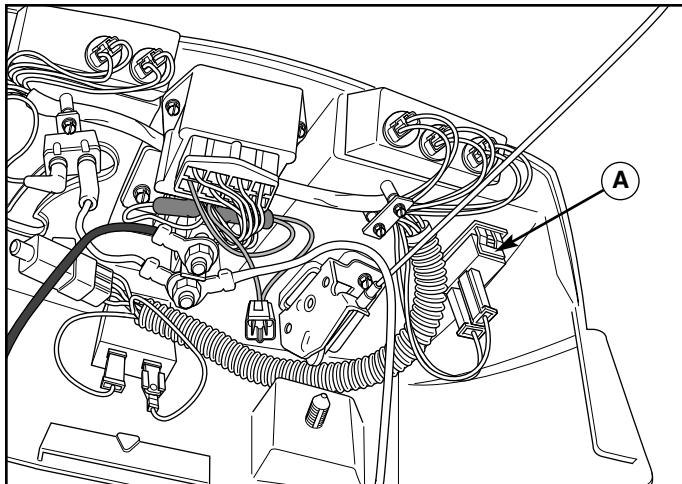

Figure 36. Headlight Switch Location
2. Set VOM to VDC. Touch the negative probe to ground. Use the positive probe to probe the white / black wire of the headlight switch plug (see Figure 36). The VOM should read battery voltage. If not, check the ignition switch and all connections and wires.